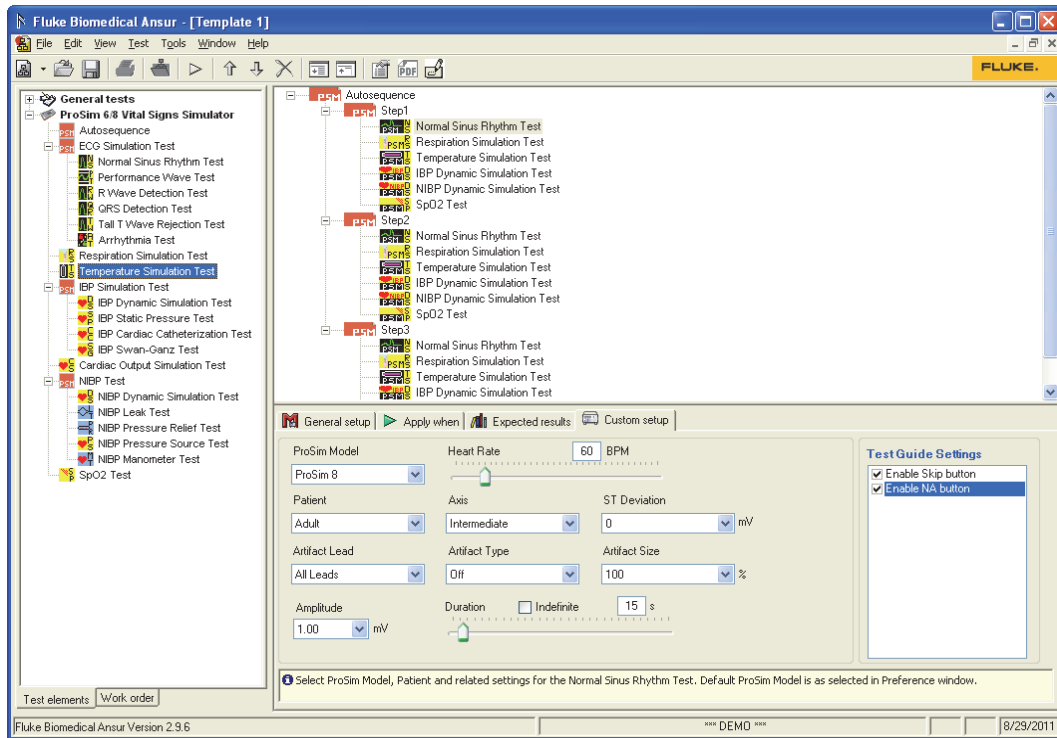

Figure 3-39. Complete Autosequence with Three Steps
8. Figure 3-39 shows a template with an autosequence that has three steps. Each step has six different test elements to set the parameters in the Simulator.